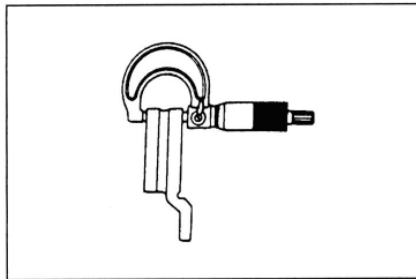

Fig. 16-20
- (7) Install brake disc assembly, and inspect brake drag torque.
- 8) Brake disc thickness inspection (see Fig.16-20)